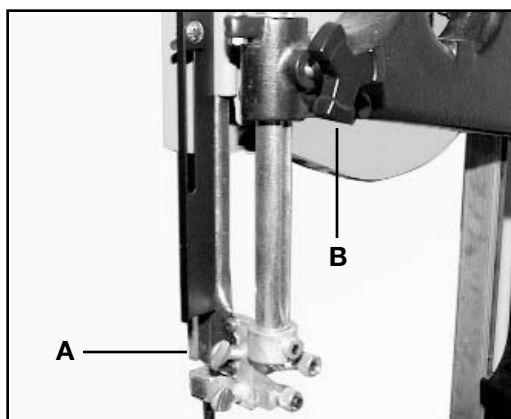

Fig. 24
2. Set the upper blade guide assembly (A) Fig. 24 as close as possible to the top surface of the workpiece. Loosen the lock knob (B) and move the guide assembly (A) to the desired position.